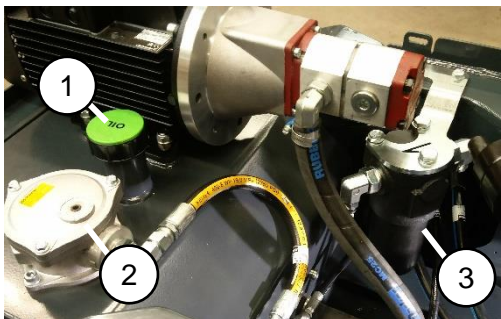

Figure 24 Hydraulic oil filters
- Open the bottom plate of the chassis and release the solenoid on the safety valve (Figure 24 (7)) by releasing the plastic nut and pulling the solenoid out.